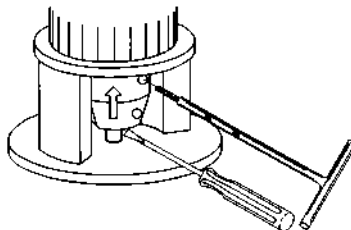

**Fig. 17** Tightening the screws
6. Tighten the screws two and two (one side at a time) to the torque stated below. See fig. 17.